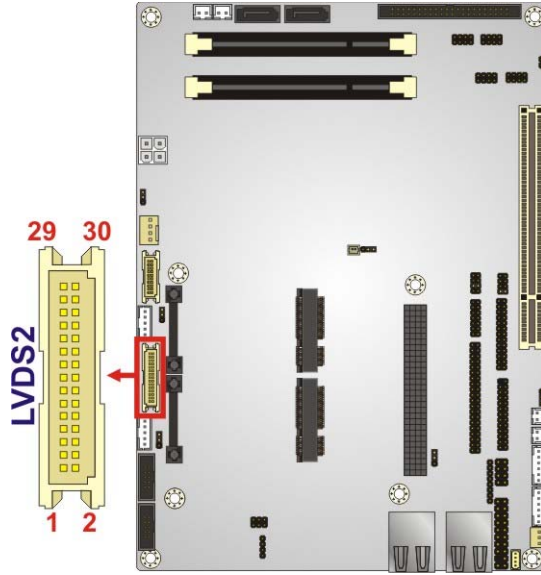

Figure 3-15: LVDS2 Connector Location
- CN Location:** See **Figure 3-15**